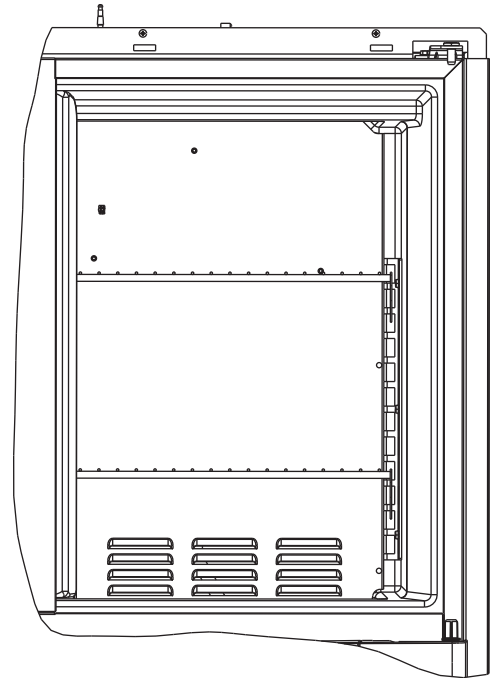

Figure 7-4. —Freezer fan should.
3. Remove the freezer fan shroud. See Figure 7-4.